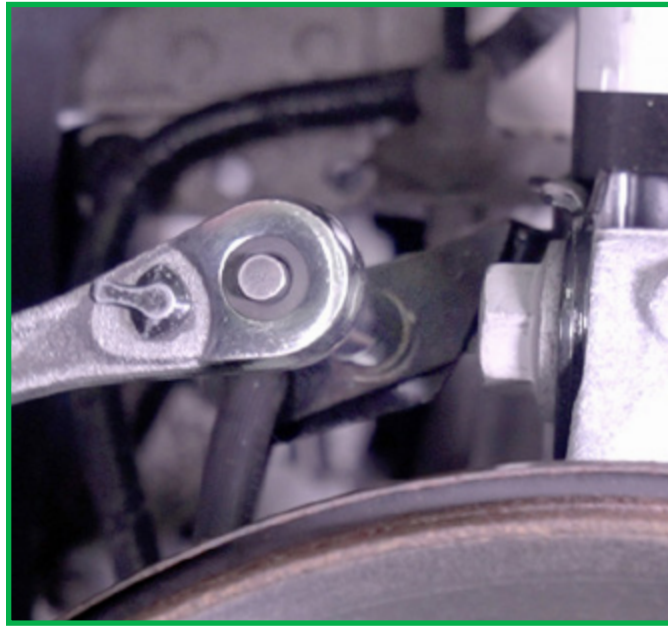

FIGURE 22
5. Reattach the brake line retainer clip. Tighten to manufacturer's specifications. (Figure 22)